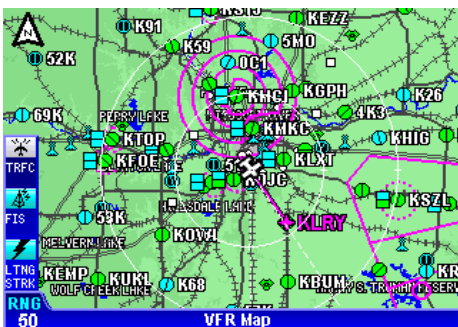

Figure 1-100
3. Press the **ACTIVATE** Softkey and the route will be displayed on the Map as shown in Figure 1-100.